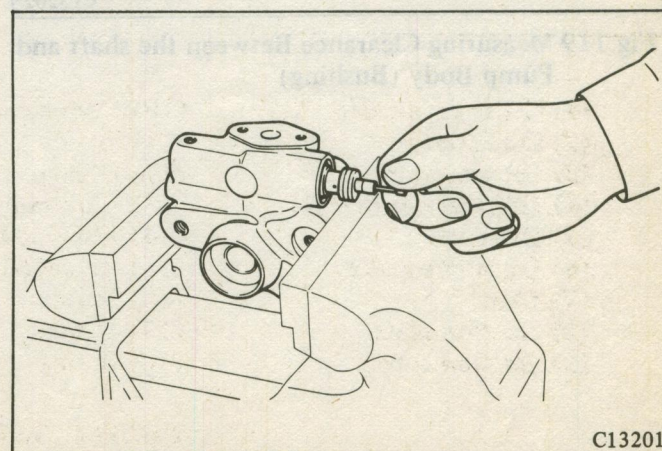

Fig. 118 Removing the Flow Control Valve Assembly and Spring
(1) Remove the connector and take out the following parts. (Fig. 118)